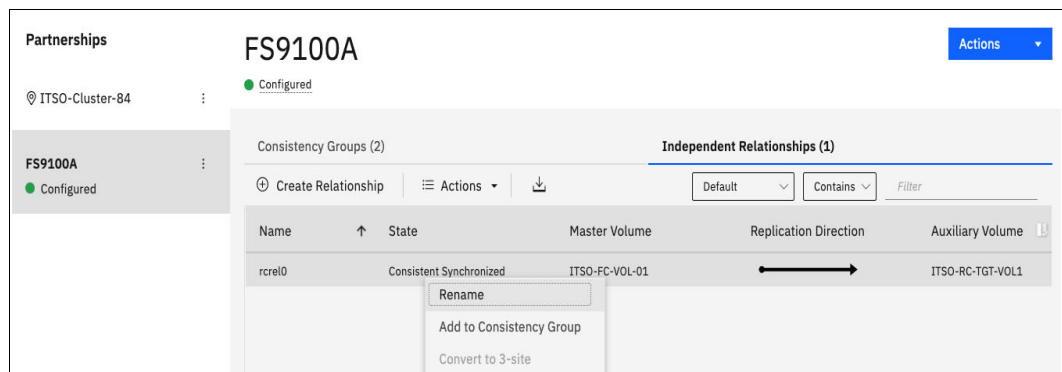

Figure 10-126 Renaming Remote Copy relationships
- Right-click the relationships to be renamed and select **Rename**, as shown in Figure 10-126.